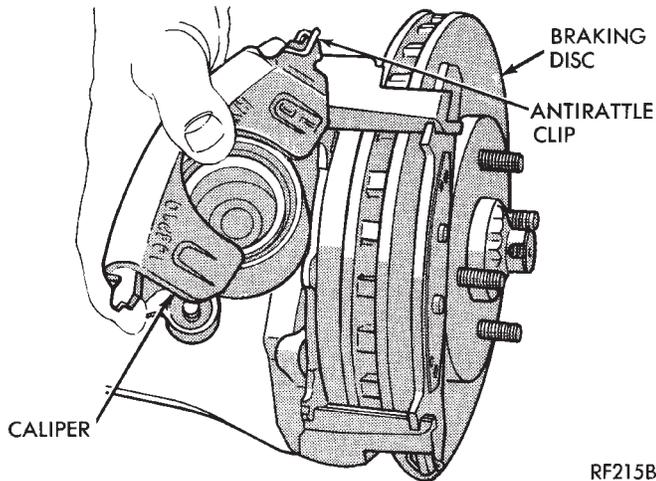

Fig. 16 Installing Family Caliper
- (9) Carefully lower brake caliper assembly over braking disc (Fig. 16).